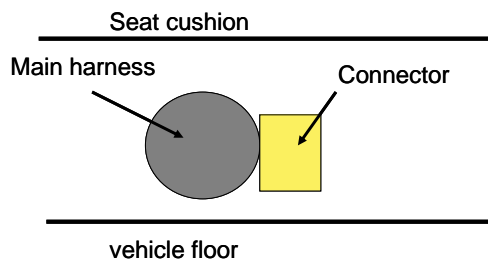

Figure 4b
- Make sure the connector is secured to the side of the harness as shown in Figure 4b.